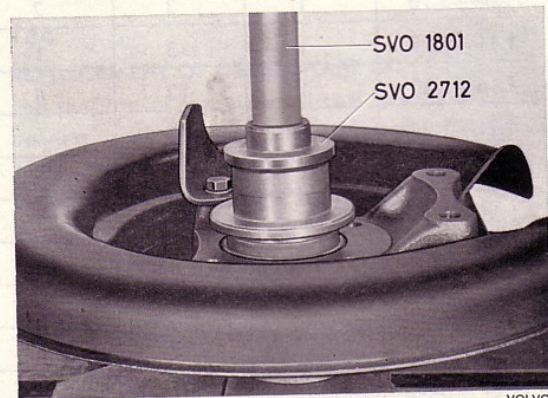

Fig. 21. Fitting outer oil seal
10. Drive the new oil seal into the brake retainer (adjusting nut) with drift SVO 2712, see Fig. 21. Fill the space between the lips of the oil seal with grease.